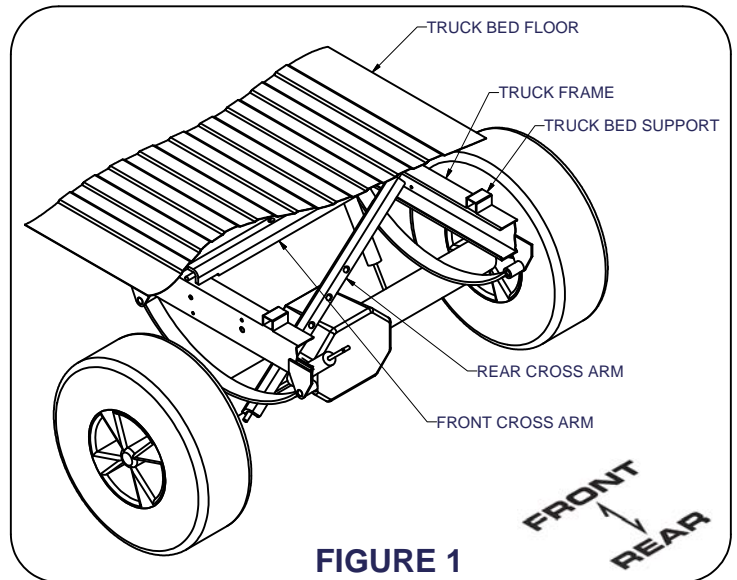

FIGURE 1
- 3) Install the rear cross arm at this time by swinging it into position as shown in **Figure 1**. The rear cross arm has a third cut-out on it to provide clearance from the exhaust pipe. From underneath the truck, first guide the arm between the frame and the truck bed on the passenger side and swing the driver side in between the the C-channel frame. Now, again guide the passenger side in between the frame and truck bed on the passenger side, but towards the rear bed frame rail and swing the driver side up over the frame. When the cross arm is in position, pull it back towards the rearmost bed frame rail.